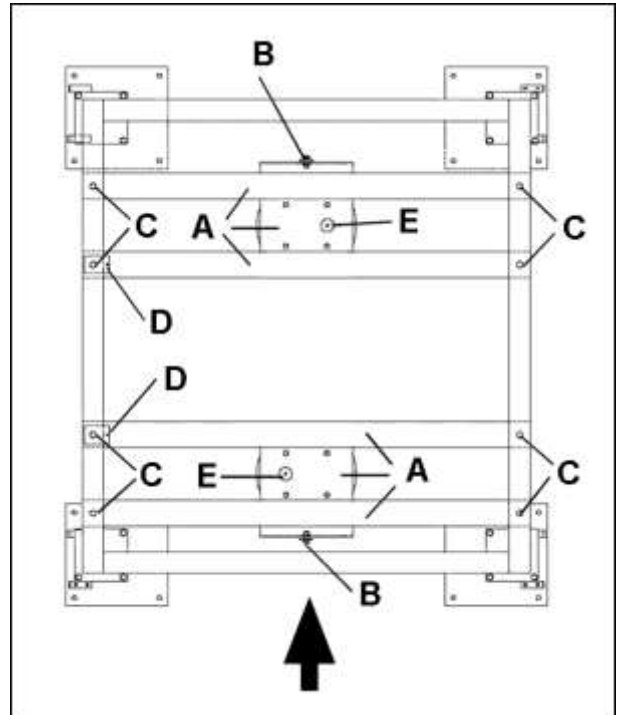

Fig. 4.6
**5.5. Pneumatic actuators assembly** (Figure 4.6)